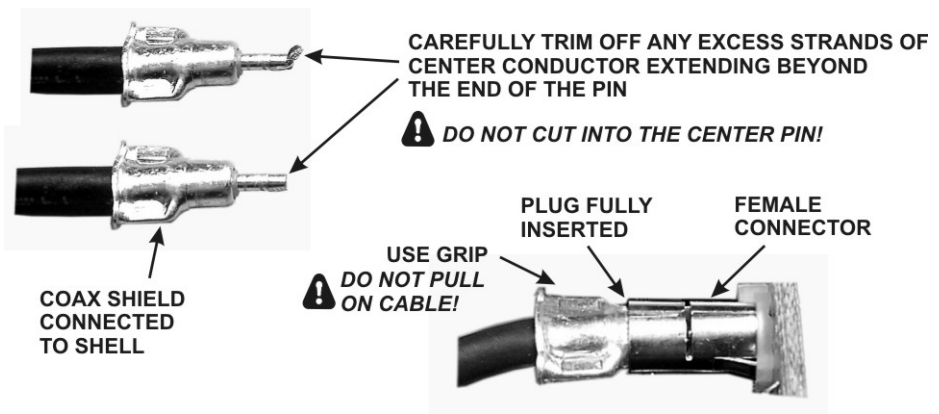

Figure 83. TMP Cable Connectors.
☐ Locate the three TMP cables. They are about 1/8" (3 mm) diameter coaxial cables with connectors at each end as shown in Figure 83. Check each cable and trim any excess center conductor strands extending beyond the end of the pin as shown. This will make mating the connectors much easier.
□ Install the three TMP cables between connectors on the KREF3 board, the main RF board and the KSYN3 board as follows. Handle the connectors by the finger-grip area shown in Figure 83, especially if you unplug a connector. **Do not pull on the coaxial cable to unplug a connector!** When mating the connectors, be sure the plugs are fully inserted as shown in Figure 83. To make the connectors easier to mate, first be sure the center pin is started in the socket, then you may twist the connector back and forth while holding it by the metal ears if needed to seat it fully as shown in Figure 83.